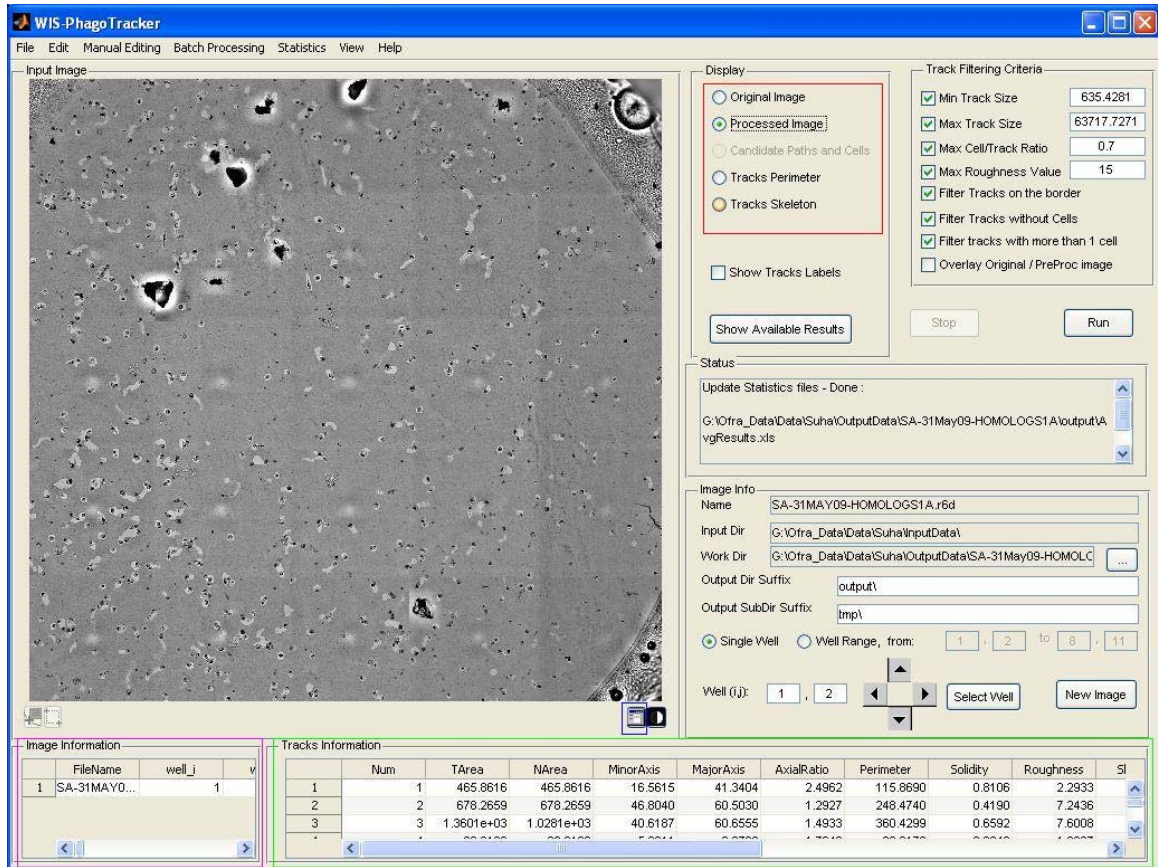

Figure 2: Display Results
8. Once processing is done you can **view the results**. You can toggle between different views of the results using the radio buttons in the *Display* panel. (see Figure 2).
To **zoom-in** on a well to see the detailed tracks, click the *Separate Figure* icon  underneath the image (in blue color in Figure 2).
9. Results are saved into two files: *Averaged Results File* includes one line for each well with the content of *Image Information* table, and an additional line with average over all wells (if a range of wells was processed). The *Detailed Results File* includes one line for each detected cell, in each processed image, with the content of *Tracks Information* table. The files are placed under *WorkDir\Output Suffix Dir\File Name*. Their default names are set using *Edit->Settings* menu. They can be saved either Excel format (.xls) or comma separated text file (.txt), and can be opened with Excel for example. Thus, for the example shown in Figure 2 the Average Results file will be in: